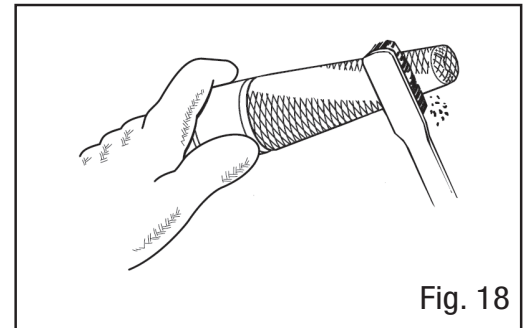

Fig. 18
6. Measure the plug gap with a spark plug gap gauge. The gap should be 0.7 - 0.8 mm (0.028 - 0.031 in) (Fig. 18). Carefully adjust the gap if necessary.